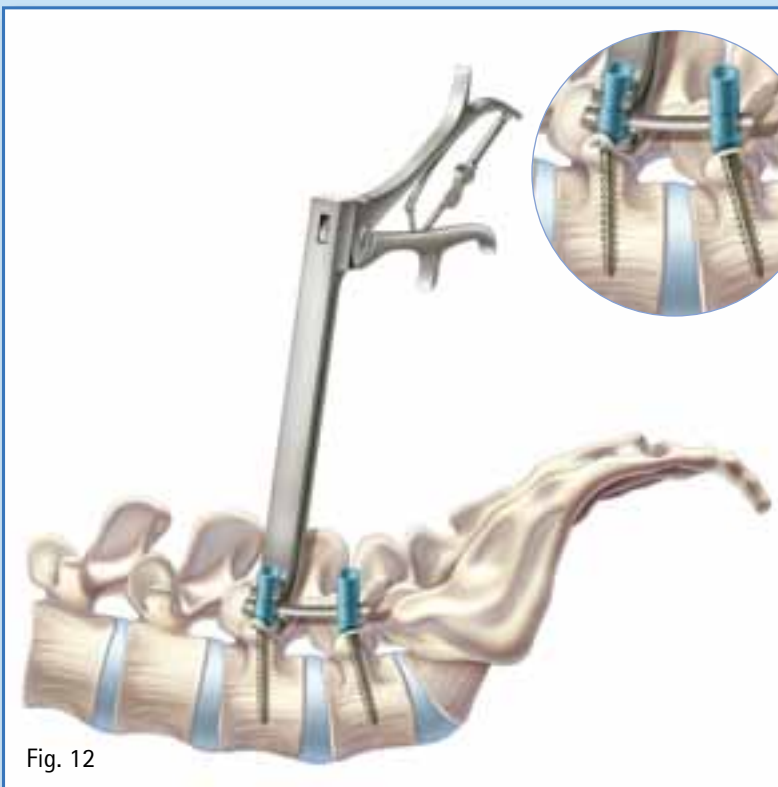

Fig. 12
- Squeeze the handle to seat the rod into the head of the screw. The ratchet will hold the rod persuader in the reduced position while the set screw is applied. (Fig. 12)